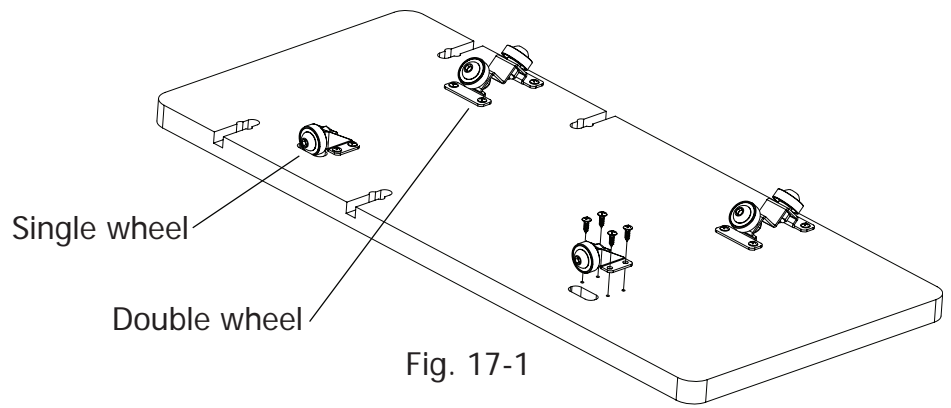

Fig. 17-1
Step 17-1: Attach each of the wheels to the bottom side of the top plate using the provided 12mm wood screws, as shown in Fig. 17-1.